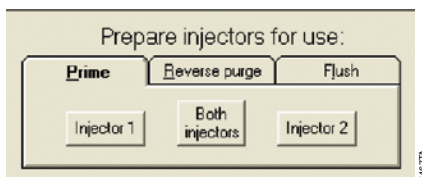

Figure 11. Selecting injectors for priming.
2. Click the “Prime” tab in the Main Dialog Box. Select the injectors you wish to prime (see Figure 11).